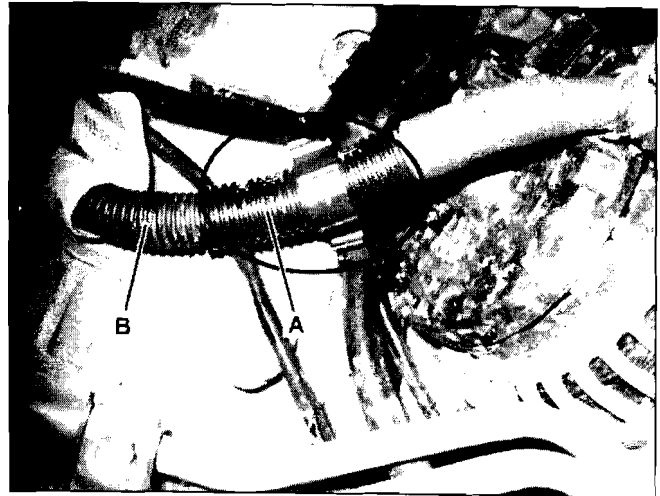

Figure 4
1. Cut open a new 5 cm long corrugated tube (A, Figure 4) lengthwise and install over existing tube (B) in damaged area (circled).